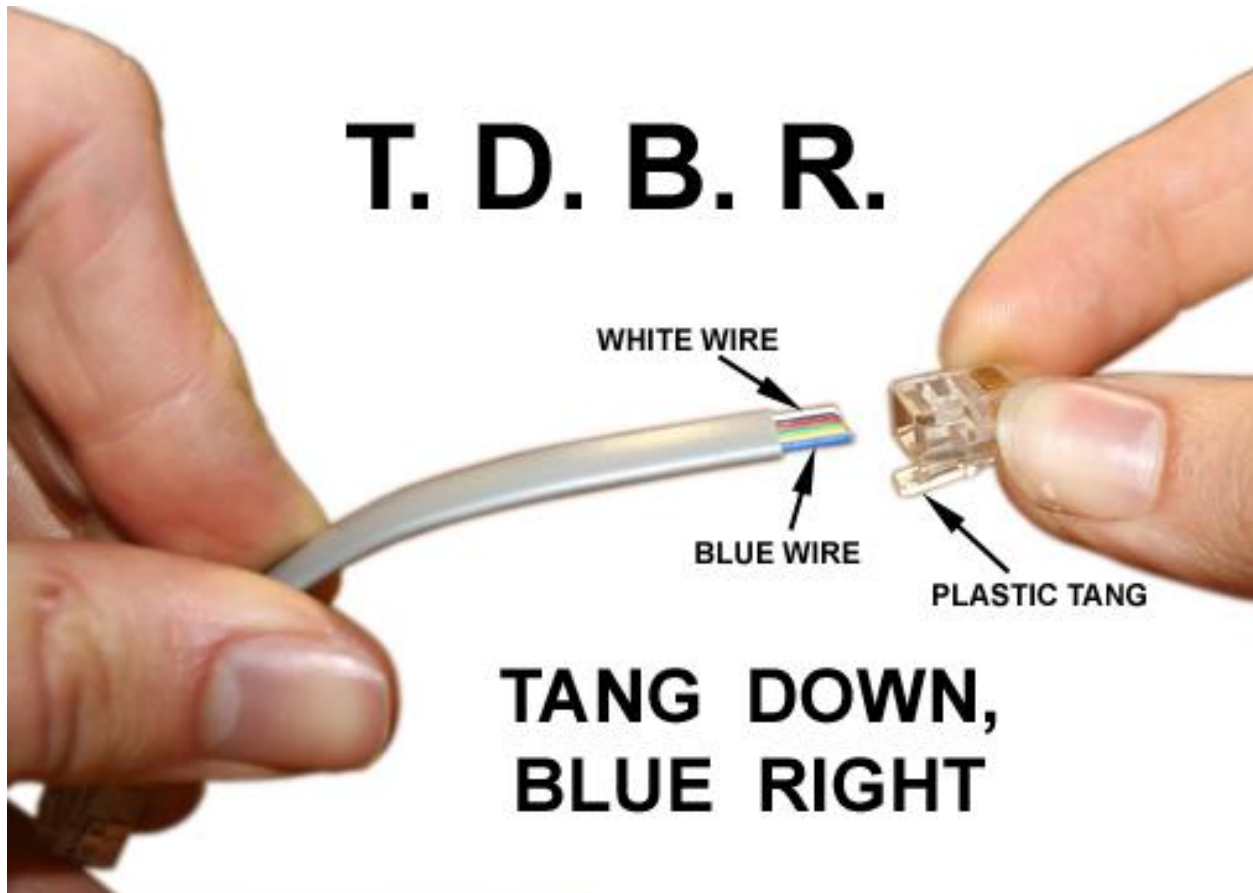
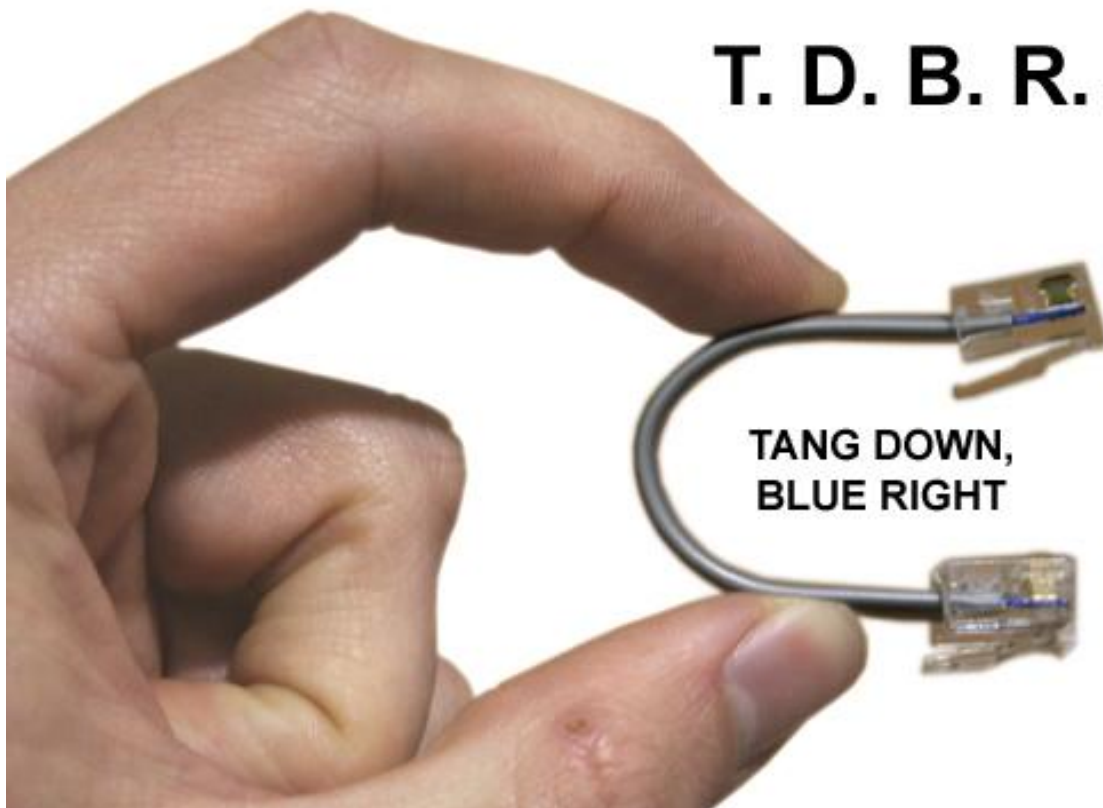

figure 06
figure 07
NOTICE! RJ cable is quite rugged but take care not to cut or sharply bend (and fatigue) the cable in order to avoid errors from broken internal wires. Additionally, follow the proper cable construction techniques listed below and make sure that all the wires are installed in the correct orientation. (See figure 06)
Step 5: Now take an un-crimped plug-end in your right hand and with the tang oriented on the bottom side, slide the outward facing end of the flat RJ cable into the slot in the un-crimped plug. Make sure it is not crooked and push it all the way into the un-crimped plug. (see figure 06)
(see figure 06 and figure 07)